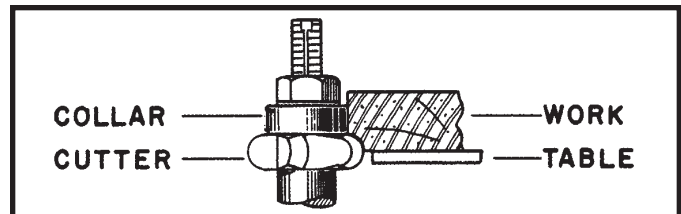

Fig. 65
3. When the collar is used above the cutter as shown in Fig. 65, the cut cannot be seen, yet this method offers some advantage in that the cut is not affected by slight variations in the thickness of the stock. Also, accidental lifting of the work will not gouge the workpiece. Simply correct the mistake by repeating the operation.